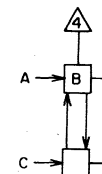

Figure 5. Flip-Flop Symbol
The flip-flop is composed of two inverters and functions as a storage device with two stable states designated as set and clear (see Figure 5). The flip-flop is set when the set output (B) is a "1" and clear when it is a "0". Note that the input (A) must be "0" to set the flip-flop, and (C) must be "0" to clear it.